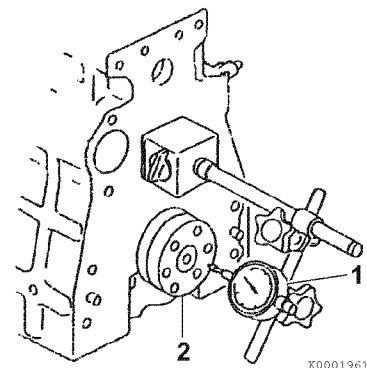

Figure 6-57
- **Method A:** Install a dial gauge (1, **Figure 6-57**) on the cylinder block. Move the crankshaft (2, **Figure 6-57**) in and out to measure the end play. Record the measurement.